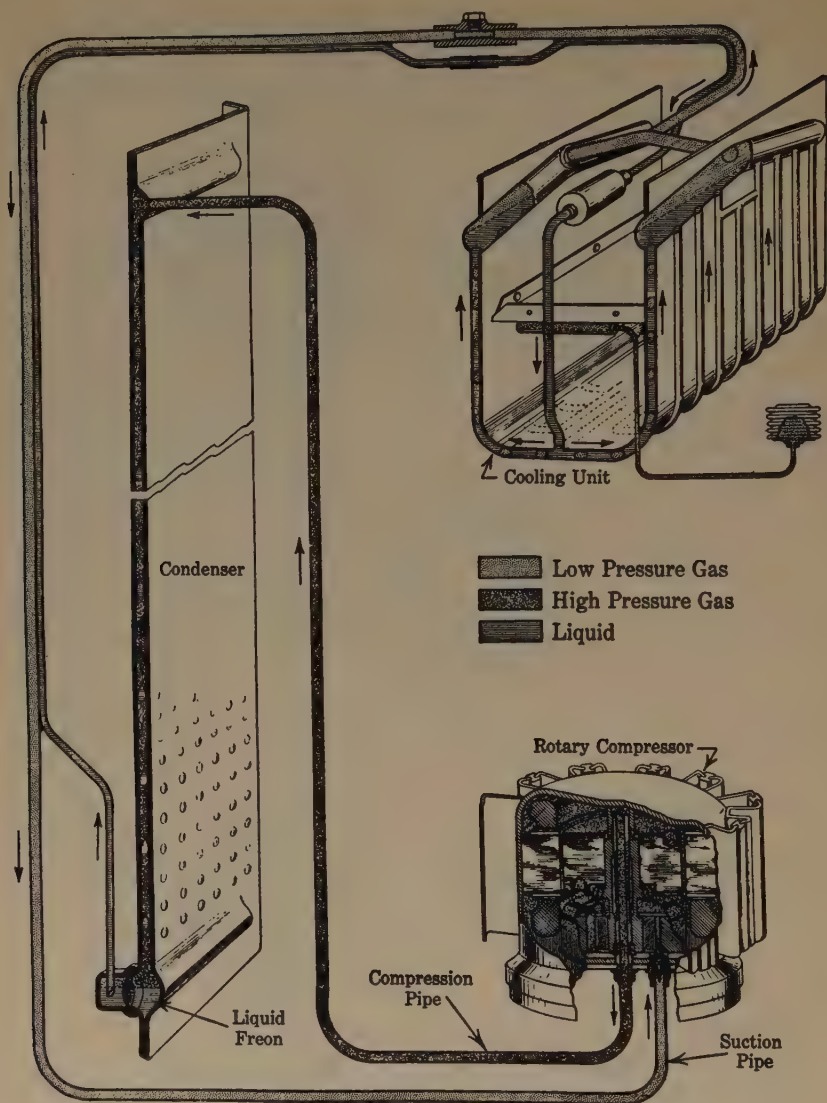

FIG. 180.—Working parts of the mechanical refrigerator.
**How cold is produced.** Three essential parts of the cooling plant are the compressor, the condenser, and the cooling unit. There are connecting pipes as indicated in Fig. 180. Freon gas is pumped or